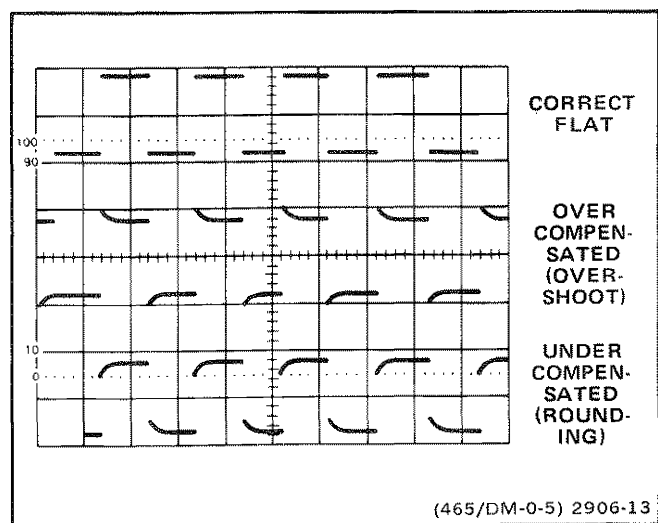

Figure 5-1. Probe compensation.
6. Check the waveform display for overshoot and rounding (see Figure 5-1); if necessary, use a small-bladed screwdriver to adjust the probe compensation for a square front corner on the waveform.
12. Check the waveform display for overshoot and rounding (see Figure 5-1); if necessary, use a small-bladed screwdriver to adjust the probe compensation for a square front corner on the waveform.